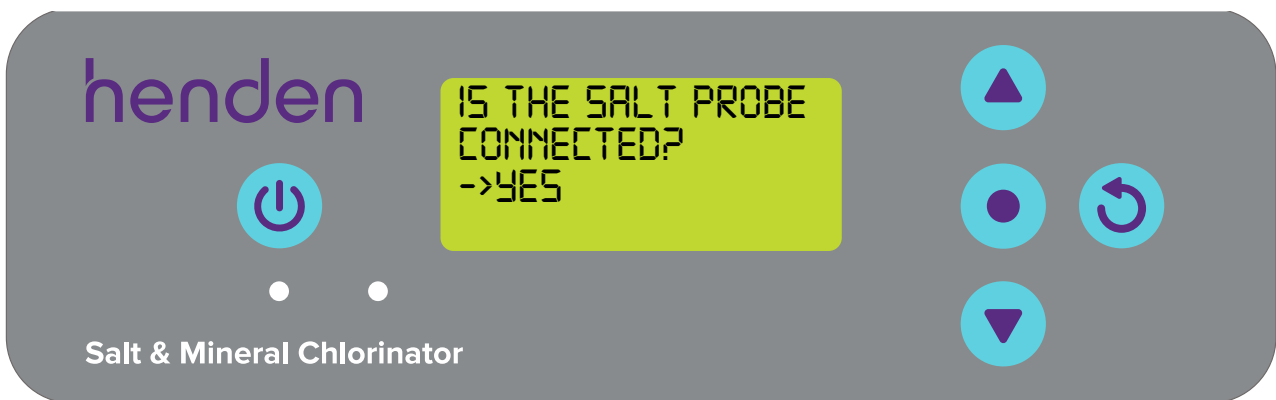

Figure 6.24
- The next screen shown asks if the salt/conductivity probe is currently connected and to be used (refer Figure 6.24)